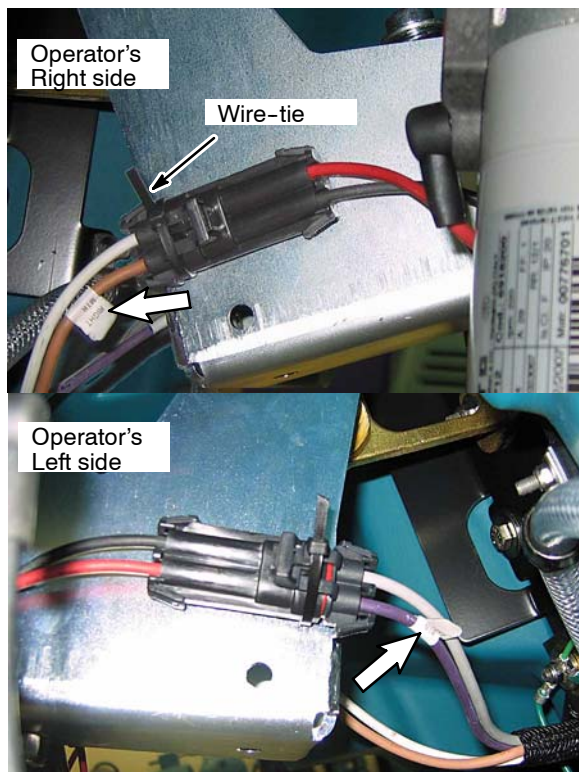

Fig. 6
6. Connect the brush motor wire connectors into the machine's wire harness and secure connectors with wire-tie as shown (Figure 6).